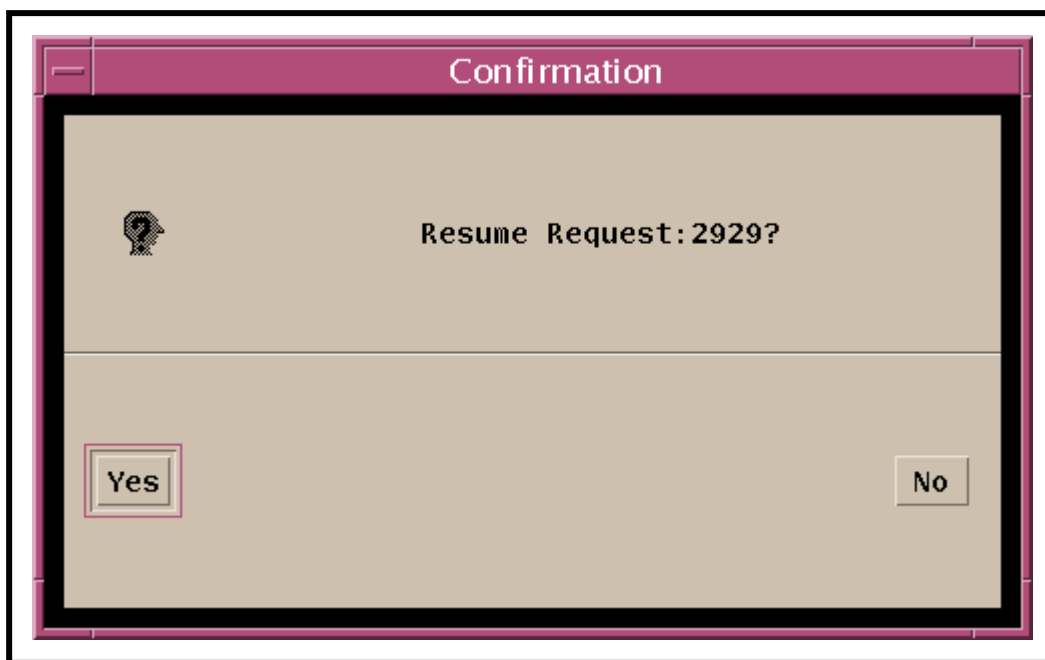

Figure 13. Resume Request Confirmation Dialogue Box
- A **Resume Request Confirmation Dialogue Box** (Figure 13) is displayed.
- The **Resume Request Confirmation Dialogue Box** (Figure 13) is dismissed.